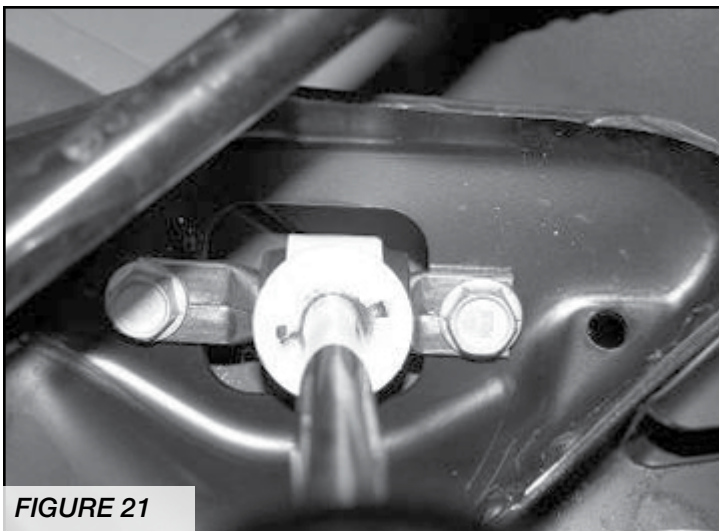

FIGURE 21
25. Install the new supplied Fabtech shocks. Use the factory upper and lower hardware to mount the shocks. Torque the upper hardware to 29 ft-lbs and the lower to 75 ft-lbs. SEE FIGURE 21